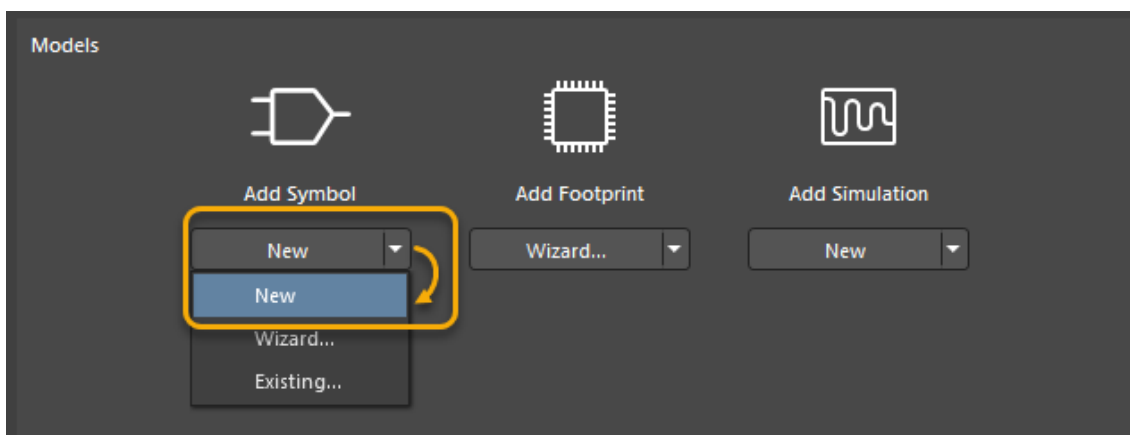

Figure 10. Creating New Symbol
13. Select **New** from the drop-down under **Add Symbol** in the Models section. See Figure 10 below.